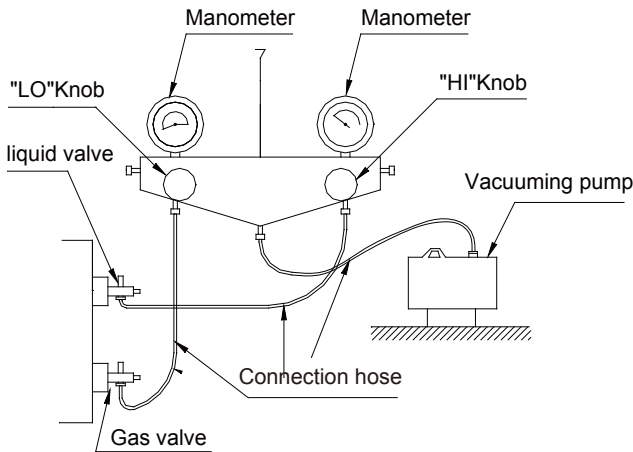

Fig.37
- (1) Confirm outdoor liquid and gas valves are closed. Air purging from the nozzle located on liquid and gas valves by vacuum pump. See Fig.37.